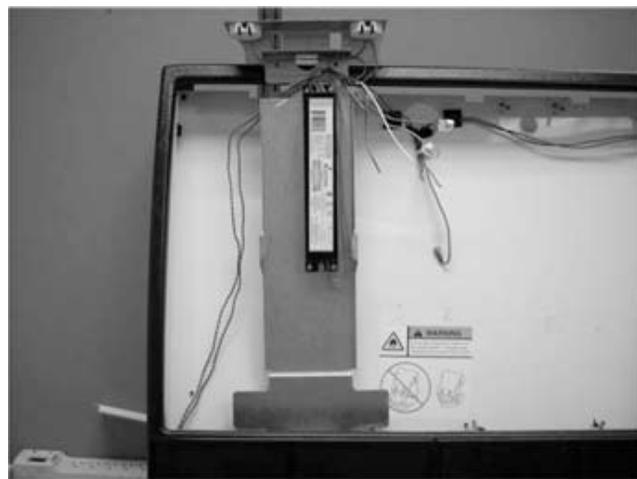

Figure 41.
- F. Place ballast by left hand side of merchandiser, see Figure 41.